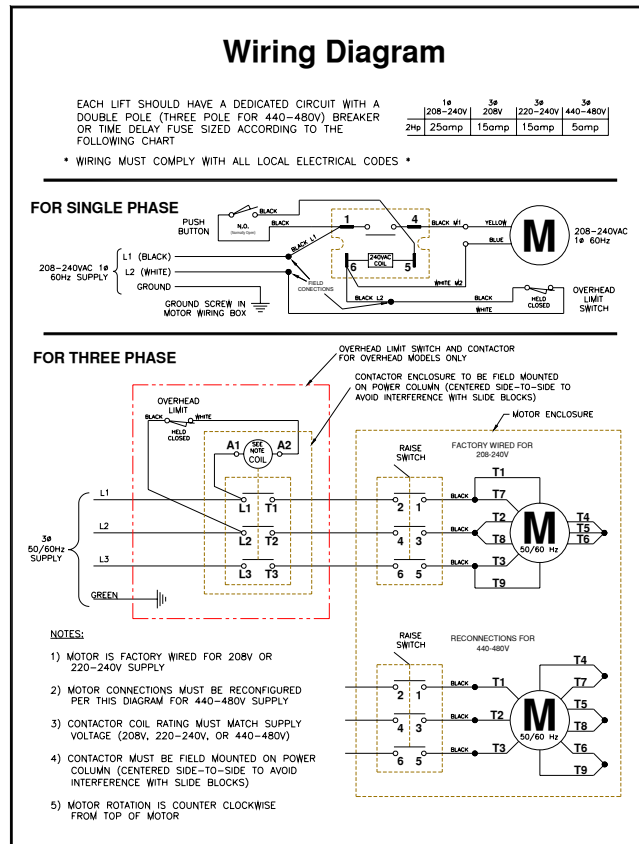

Figure 7
13. Electrical: Have a certified electrician run 208 – 230V Single Phase 60 Hz power supply to motor. Size wire for a 25 Amp circuit. **See Figure 7**